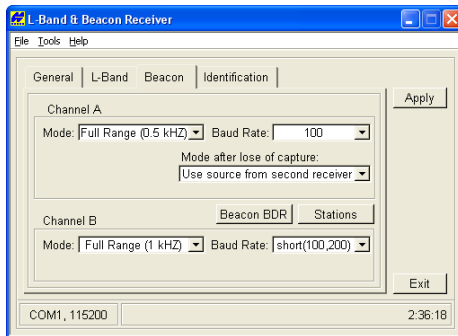

Figure 2-4. Modem-TPS – Beacon Configuration
4. Click the **Beacon** tab and select the following mode settings for searching the radio beacon needed using the Beacon receiver's Channels A and B (Figure 2-4 on page 2-9).